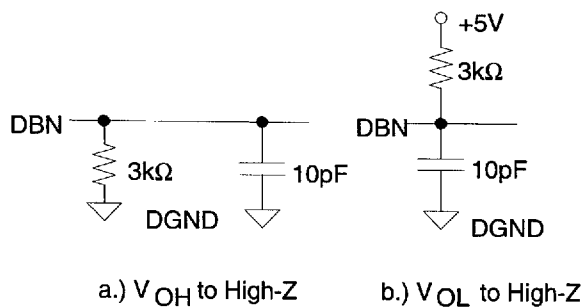

Figure 6. Load Circuits for Output Float Delay
10. Defined as the time required for the data lines to change 0.5V when loaded with the circuits of Figure 6.